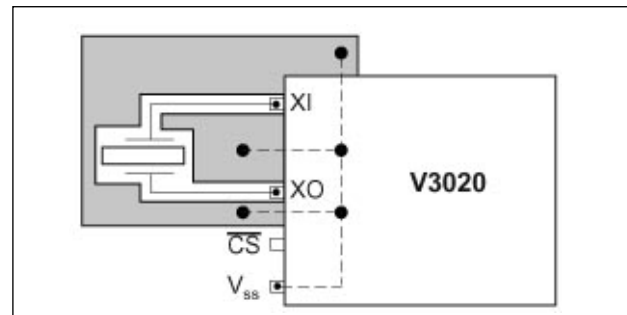

Fig. 14
- Fig. 14 shows the recommended layout.